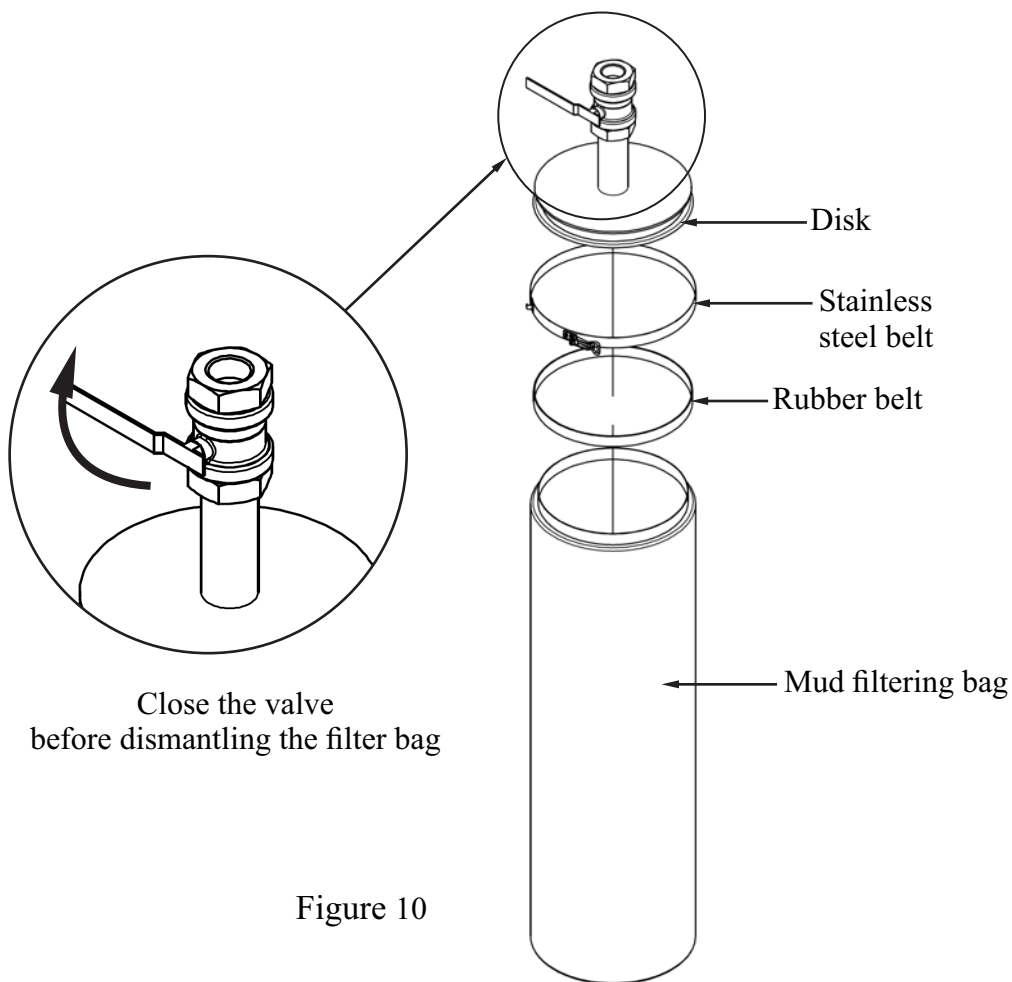

Figure 10
- Before replacing the new filter bag, the operator must turn the valve off (Figure 10).